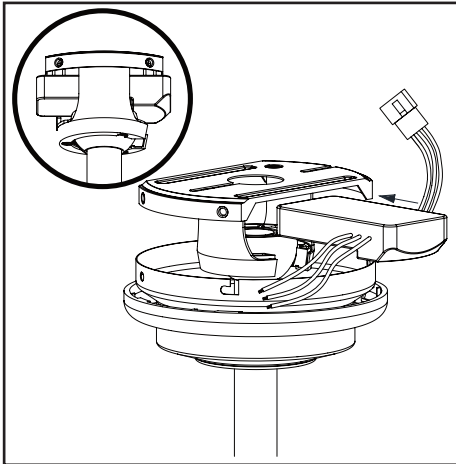

Figure 16
2. Insert the narrow end of the receiver (as shown, flat side toward ceiling) into the slide-on mounting bracket until it rests on top of the ball/downrod assembly. (Figure 16)